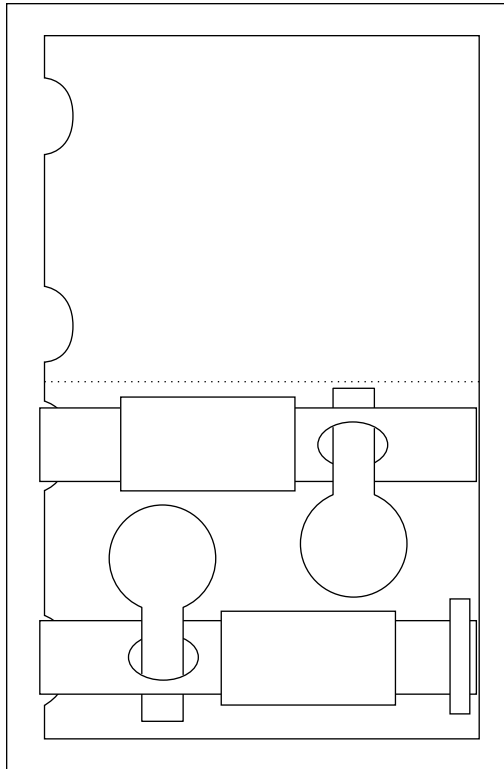

Figure 7-19:
11. Repeat Steps 7 through 9 with the other pull tab on the other cat head (see Figure 7-19).